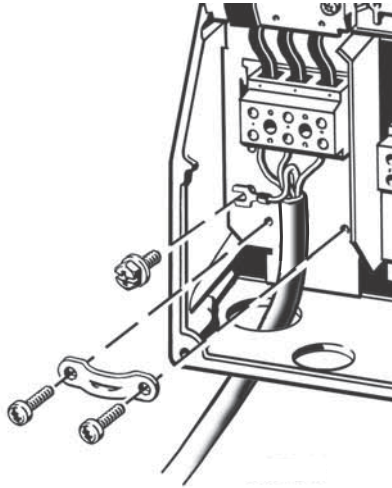

Fig. 14 Mains connection, B1 and B2
1. Connect the earth conductor to terminal 95 (PE). See fig. 14.